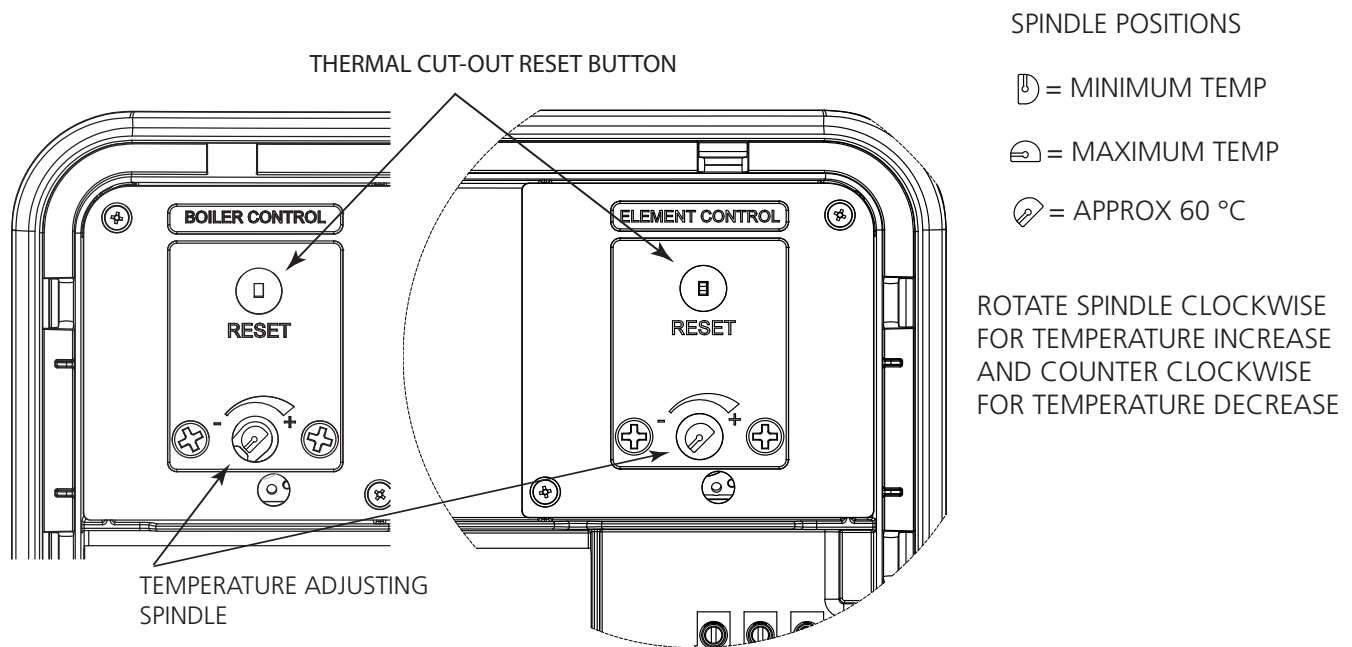

Figure 14: Thermostat adjustment
- ▶ The immersion heater thermostat is factory set at 60°C. Should this require adjustment see Fig 14 for details of how to adjust the temperature setting. Each immersion heater has its own individual thermostatic control. The thermostat incorporates a thermal cut-out that will switch off the immersion heater in the event of a thermostat failure. The thermal cut-out reset button position is also shown on Fig 14.
- ▶ The immersion heater and indirect control thermostats are factory set at 60°C. Should this require adjustment see Fig 14 for details of how to adjust the temperature setting. The immersion heater and indirect controls each has its own individual thermostatic control. The thermostats incorporate a thermal cut-out that will switch off in the event of a thermostat failure. The thermal cut-out reset button position is also shown on Fig 14.
- ▶ If necessary the temperature can be adjusted by inserting a flat bladed screwdriver in the adjustment spindle on front of the immersion heater (ELEMENT) control thermostat and rotating (see Fig. 14 page 19 for details of how to adjust). The adjustment represents a temperature range of 10°C to 70°C.
- ▶ If necessary the temperature can be adjusted by inserting a flat bladed screwdriver in the adjustment spindle on front of the indirect (BOILER) thermostat and rotating (see Fig. 14 page 19 for details of how to adjust). The adjustment represents a temperature range of 10°C to 70°C.
- ▶ Temperature adjustment is made by rotating the adjustment knob on the top of the thermostat. The adjustment represents a temperature range of 10°C to 70°C (see page 19 Figs 14 for method of adjustment).